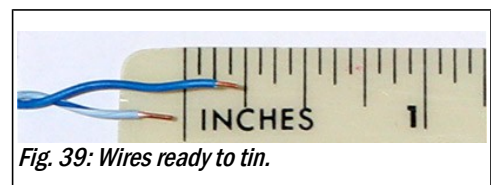

Fig. 39: Wires ready to tin.
- ☐ Cut one wire about $\frac{1}{2}$ " shorter than the other. Strip $\frac{1}{8}$ " of insulation from one end of each wire (Fig. 39). Tin the bare wires with solder. "Tinning" means to coat the copper wire